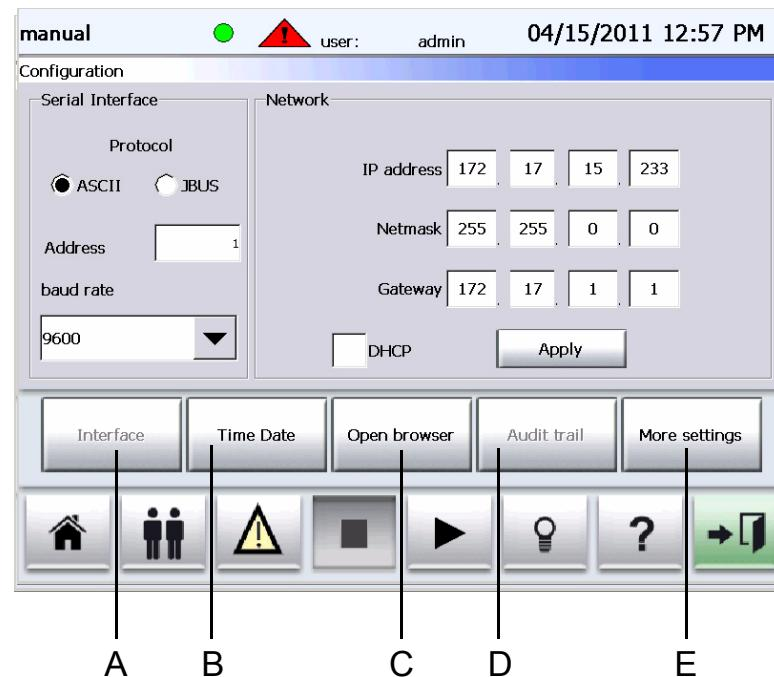

Fig. 3-11
- refer to chapter 3.2.3, Fig. 3-11 (page 28)
- refer to chapter 3.2.3 , Fig. 3-11 (page 28)